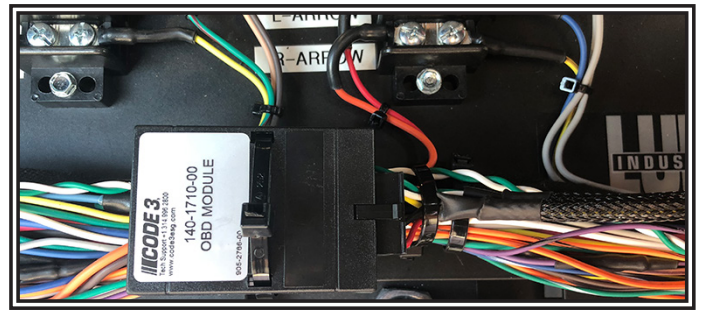

Figure 8
Step 2. Connect the OBDII Device to the 14 Pin connector on the OBDII Harness. Secure the device away from moving parts. See FIGURE 8.